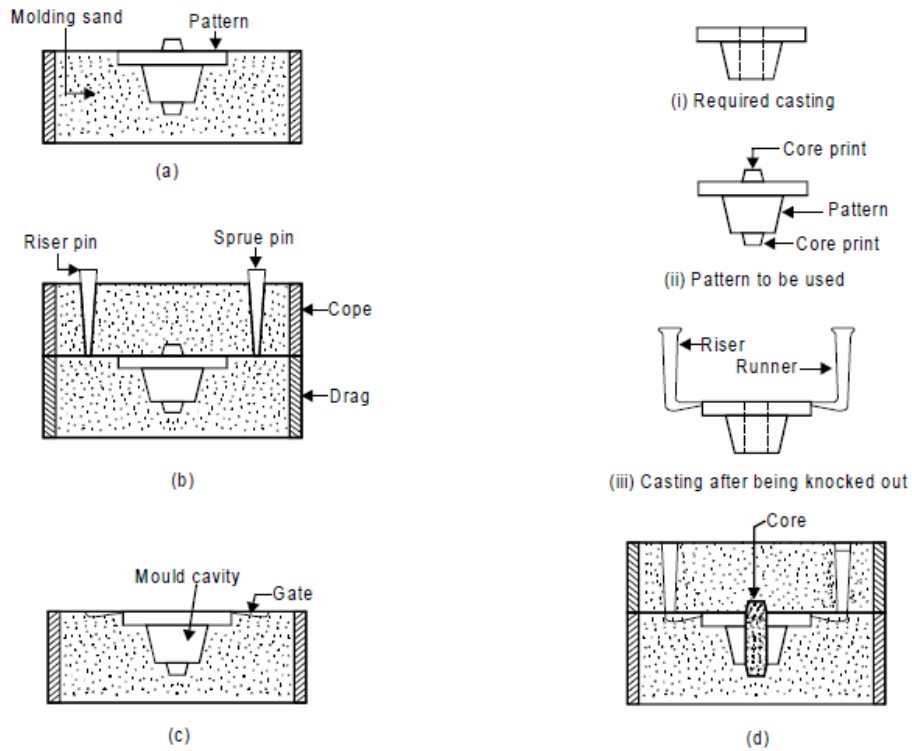

Fig Q5b: manufacturing flow chart
- b) The flow chart (a-d) in Fig Q5b below represents the manufacturing process for a certain component.